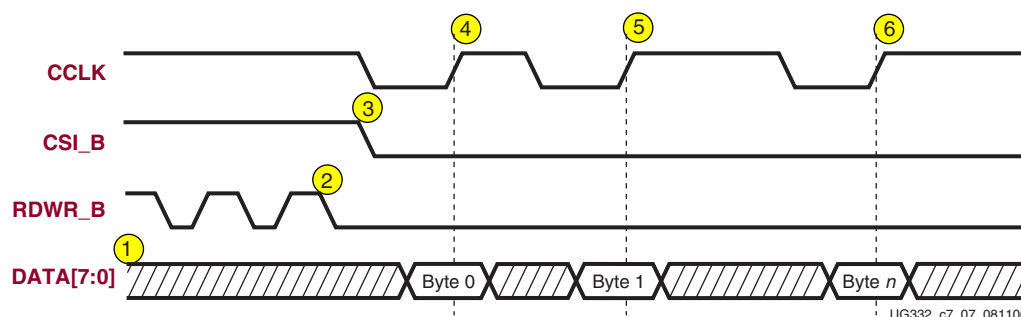

Figure 7-7: Non-Continuous SelectMAP Data Loading with Controlled CCLK
2. Pause **CCLK**, shown in Figure 7-7 and described in “Pausing **CCLK**,” page 186.
The following numbered items correspond to the markers provided in Figure 7-7.